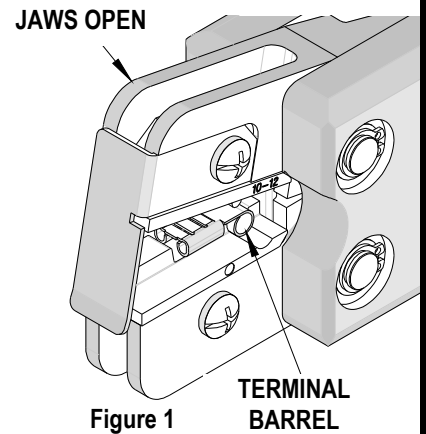

Figure 1
1. Insert the flag terminal into the nest with the barrel down and centered in the nest. The flag terminal should be against the locator. See figure 1.